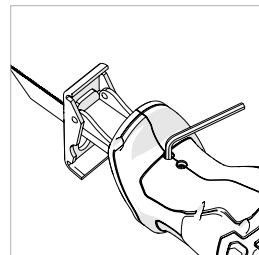

Fig. 4
- 1) Loosen the 2 screw grubbs under the front handle. **(Fig.4)**